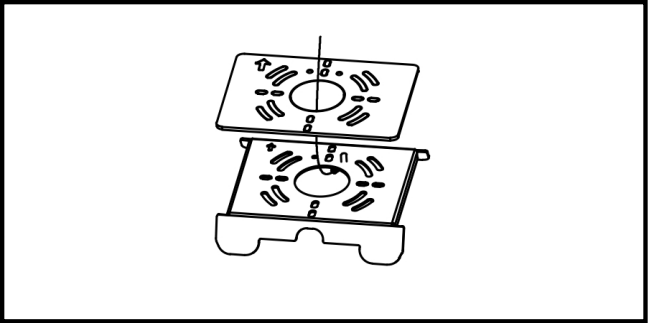

Figure 3.
3. Attach the gasket to the wedge plate with the adhesive provided on the gasket. (Figure 3.)